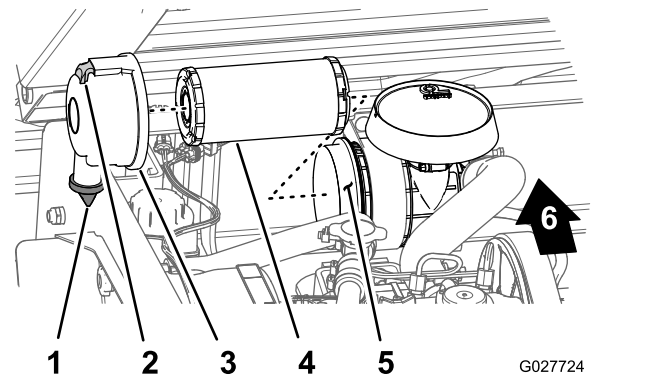

Figure 29
2. Check the air-filter body for damage that could possibly cause an air leak (Figure 29).
3. Pull the latch outward and rotate the air-filter cover counterclockwise (Figure 29).
5. Gently slide the air-filter element out of the air-filter housing (Figure 29) to reduce the amount of dust dislodged.
1. Clean the dirt-ejection port located on the air-filter cover (Figure 29).
2. Remove the rubber outlet valve from the cover, clean the cavity, and replace the outlet valve (Figure 29).
3. Insert the air-filter element into the air-filter housing by applying pressure to the outer rim of the element to seat it into the air-filter housing (Figure 29).
4. Align the air-filter cover with the air-filter housing with the rubber outlet valve in a downward position (approximately between the 5 o'clock and 7 o'clock positions when viewed from the end) as shown in Figure 29.
5. Secure the cover to the housing with the latches (Figure 29).